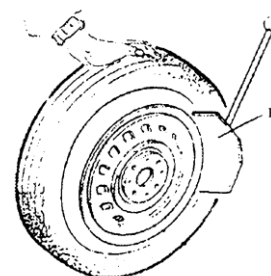

Fig 8
Ensure to exhaust the air in the tyre completely, place the tyre against the rubber buffer (4). Bring the paddle (R) against the bead about 10mm from the edge of the rim shown as **Fig 8**. Tread Bead breaker Pedal (3) to push paddle into tyre. Repeat the above operations on different positions around the tyre and both sides of tyre until tyre bead is released completely.